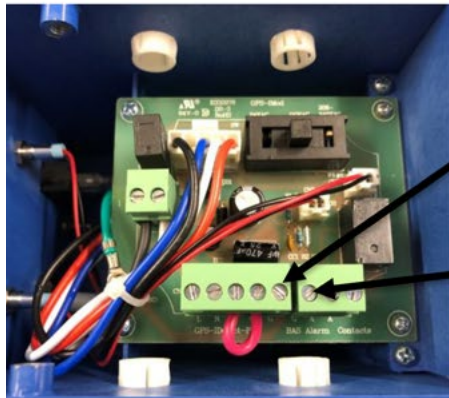

FIGURE 20
The GPS-iMOD has an internal ionization output sensing circuit. The external GPS-iDETECT-P™ is not required but may be installed as an option. Integral alarm “dry” contacts will close when the system is on and operating properly. To tie into the BMS/BAS for remote monitoring, use 18/2 twisted pair, SHIELDED, plenum rated cable and connect to the BMS/BAS ALARM contact terminals. Connect the cable shield to the ground terminal as shown in FIGURE 20. The terminal block may be removed for ease of wiring. **Keep the control wiring as far from the HV wiring as possible. DO NOT RUN BOTH CABLES TOGETHER AND DO NOT ZIP TIE CONTROL WIRING TO FLEXIBLE HV CABLES!**
2. Using 300V, 18/4, plenum rated, SHIELDED cable wire between the GPS-iDetect-P power and normally open terminals and the GPS-iMOD power supply GPS-iDetect-P terminal block as shown in FIGURE 20. Ground the 18/4 SHIELD to the ground terminal on the GPS-iDetect-P terminal strip shown in FIGURE 20.
1. Once the entire system is mounted and wired, energize the system by turning the on/off switch to the "on" position. The green power "ON" LED and "PLASMA ON" LED should illuminate. If the PLASMA ON does not illuminate, confirm the red jumper is installed between C and NO on the GPS-iDetect-P terminal block, as shown in FIGURE 20. If an external sensor is used, confirm it is on and operating.